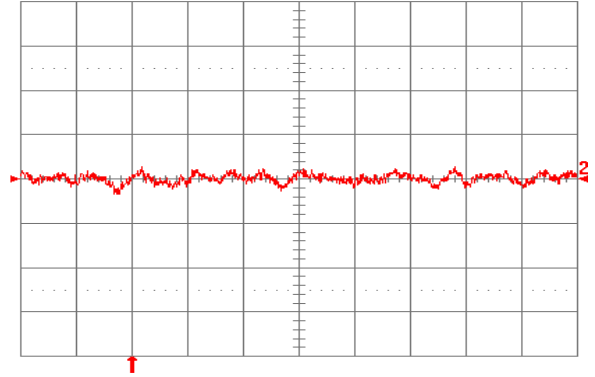

**Fig. 1.0V.14:** Test Setup for measuring input reflected ripple currents,  $i_c$  and  $i_s$ .
**Fig. 1.0V.1:** Available load current vs. ambient air temperature and airflow rates for SQ48T15010 converter with D height pins mounted vertically with  $V_{in} = 48\text{ V}$ , air flowing from pin 3 to pin 1, and maximum FET temperature  $\leq 120^\circ\text{C}$ .
**Fig. 1.0V.2:** Available load current vs. ambient air temperature and airflow rates for SQ48T15010 converter with D height pins mounted horizontally with  $V_{in} = 48\text{ V}$ , air flowing from pin 3 to pin 1, and maximum FET temperature  $\leq 120^\circ\text{C}$ .
**Fig. 1.0V.3:** Available load current vs. ambient air temperature and airflow rates for SQ48S15010 converter mounted vertically with  $V_{in} = 48$  V, air flowing from pin 3 to pin 1, and maximum FET temperature  $\leq 120$  °C.
**Fig. 1.0V.4:** Available load current vs. ambient air temperature and airflow rates for SQ48S15010 converter mounted horizontally with  $V_{in} = 48$  V, air flowing from pin 3 to pin 1, and maximum FET temperature  $\leq 120$  °C.
**Fig. 1.0V.5:** Efficiency vs. load current and input voltage for SQ48T/S15010 converter mounted vertically with air flowing from pin 3 to pin 1 at a rate of 300 LFM (1.5 m/s) and  $T_a = 25$  °C.
**Fig. 1.0V.6:** Efficiency vs. load current and ambient temperature for SQ48T/S15010 converter mounted vertically with  $V_{in} = 48$  V and air flowing from pin 3 to pin 1 at a rate of 200 LFM (1.0 m/s).
**Fig. 1.0V.7:** Power dissipation vs. load current and input voltage for SQ48T/S15010 converter mounted vertically with air flowing from pin 3 to pin 1 at a rate of 300 LFM (1.5 m/s) and  $T_a = 25^\circ\text{C}$ .
**Fig. 1.0V.8:** Power dissipation vs. load current and ambient temperature for SQ48T/S15010 converter mounted vertically with  $V_{in} = 48\text{ V}$  and air flowing from pin 3 to pin 1 at a rate of 200 LFM (1.0 m/s).
**Fig. 1.0V.9:** Turn-on transient at full rated load current (resistive) with no output capacitor at  $V_{in} = 48\text{ V}$ , triggered via ON/OFF pin. Top trace: ON/OFF signal (5 V/div.). Bottom trace: output voltage (0.5 V/div.). Time scale: 2 ms/div.
**Fig. 1.0V.10:** Turn-on transient at full rated load current (resistive) plus 10,000  $\mu\text{F}$  at  $V_{in} = 48\text{ V}$ , triggered via ON/OFF pin. Top trace: ON/OFF signal (5 V/div.). Bottom trace: output voltage (0.5 V/div.). Time scale: 2 ms/div.
**Fig. 1.0V.11:** Output voltage response to load current step-change (3.75 A – 7.5 A – 3.75 A) at  $V_{in} = 48$  V. Top trace: output voltage (100 mV/div.). Bottom trace: load current (5 A/div.). Current slew rate: 0.1 A/ $\mu$ s.  $C_o = 1$   $\mu$ F ceramic. Time scale: 0.2 ms/div.
**Fig. 1.0V.12:** Output voltage response to load current step-change (3.75 A – 7.5 A – 3.75 A) at  $V_{in} = 48$  V. Top trace: output voltage (100 mV/div.). Bottom trace: load current (5 A/div.). Current slew rate: 5 A/ $\mu$ s.  $C_o = 450$   $\mu$ F tantalum + 1  $\mu$ F ceramic. Time scale: 0.2 ms/div.
**Fig. 1.0V.13:** Output voltage ripple (20 mV/div.) at full rated load current into a resistive load with  $C_o = 10$   $\mu$ F tantalum + 1  $\mu$ F ceramic and  $V_{in} = 48$  V. Time scale: 1  $\mu$ s/div.
**Fig. 1.0V.15:** Input reflected ripple current,  $i_c$  (100 mA/div.), measured at input terminals at full rated load current and  $V_{in} = 48$  V. Refer to Fig. 1.0V.14 for test setup. Time scale: 1  $\mu$ s/div.
**Fig. 1.0V.16:** Input reflected ripple current,  $i_s$  (10 mA/div.), measured through 10  $\mu$ H at the source at full rated load current and  $V_{in} = 48$  V. Refer to Fig. 1.0V.14 for test setup. Time scale: 1  $\mu$ s/div.
**Fig. 1.0V.17:** Output voltage vs. load current showing current limit point and converter shutdown point. Input voltage has almost no effect on current limit characteristic.
**Fig. 1.0V.18:** Load current (top trace, 20 A/div., 20 ms/div.) into a 10 m $\Omega$  short circuit during restart, at  $V_{in} = 48$  V. Bottom trace (20 A/div., 1 ms/div.) is an expansion of the on-time portion of the top trace.